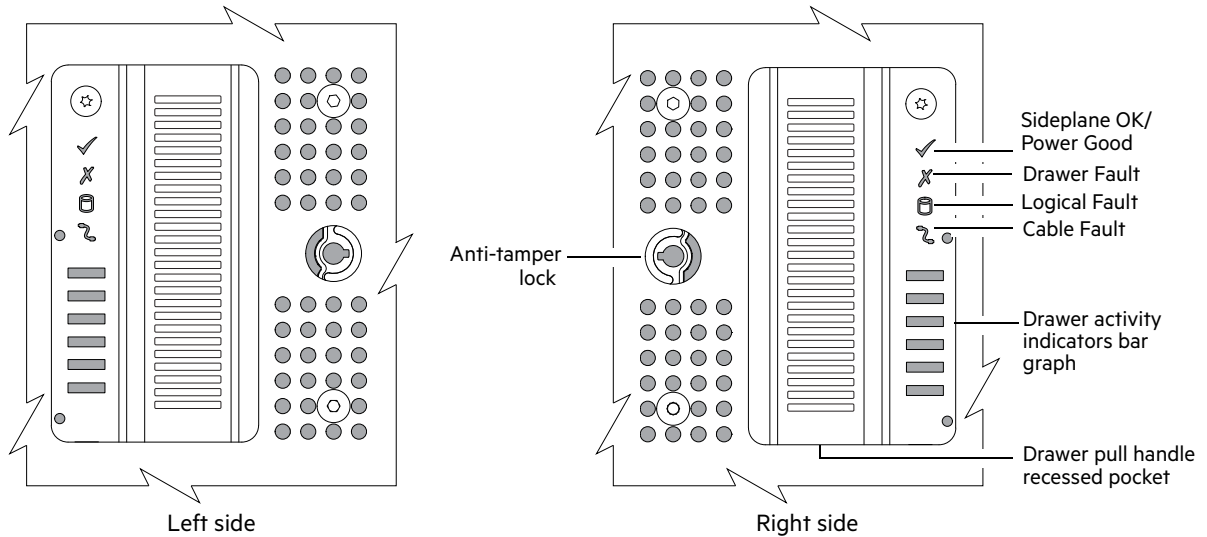

Figure 101 Drawer front panel details
1. Verify that the anti-tamper locks are not engaged. The red arrows on the locks point inwards if the locks are disengaged as shown in Figure 101. If necessary, unlock them by rotating counter-clockwise using a Torx T20 bit.